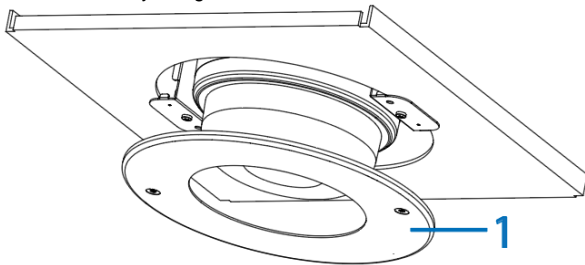

Figure 13
19. Align the trim ring plate (1) (Figure 13) captive screws with the recess mount bracket threaded holes and secure the trim ring to the recess mount assembly using a T20 Torx screwdriver.